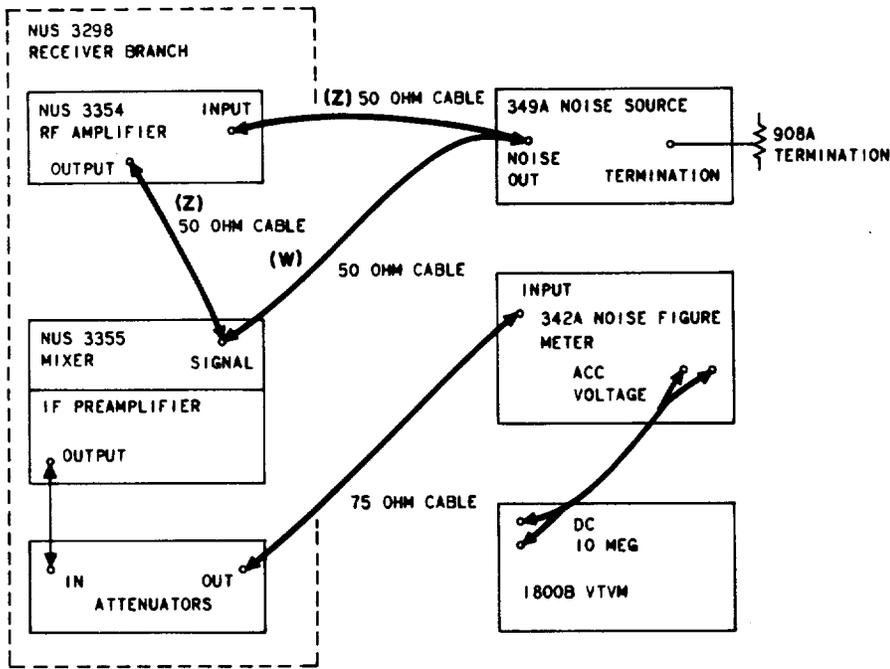

Fig. 3—RF Amplifier Gain and Receiver Noise Figure Measurements—Equipment Setup Diagram
- 1 Arrange the test equipment as shown in Figure 3. Use option (W).
10	Insert the RF amplifier in the test circuit as shown in Figure 3, option (Z).
13	<p>Verify that the test equipment is arranged as shown in Figure 3, option (Z) and that the test equipment controls are adjusted to the positions used at the conclusion of the RF amplifier gain test.</p>